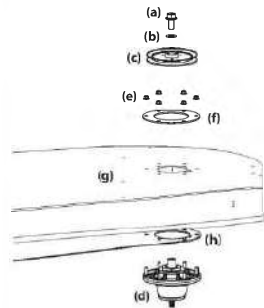

Figure 4-26
6. Remove the hex flange bolts (a) and flat washers (b) securing the left and right spindle pulleys (c) to the spindle assembly (d). See Figure 4-26.
7. Remove the six (6) flange lock nuts (e) securing the left and right spindle assemblies (d) and the support plates (f) to the deck shell (g). See Figure 4-26.
10. Reverse the process to install the new spindle assembly. When installing the new spindle assembly be sure to install the hardware exactly as shown in Figure 4-26. Torque the hex flange bolts to 250 ft-lbs and the flange lock nuts to 21-32 ft-lbs.